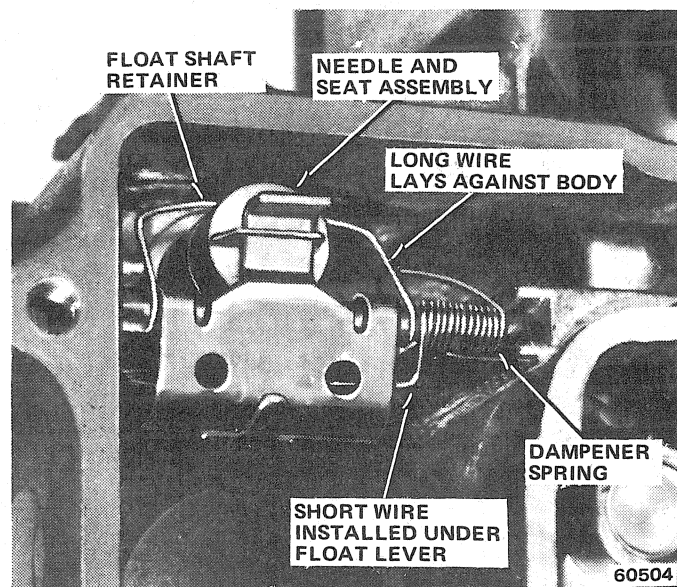

Fig. 1J-130 Damper Spring Installation
- (12) Install main jets.
- (13) Install fuel inlet seat and replacement gasket. Install fuel inlet needle assembly in fuel inlet seat. Fuel inlet needles and seats are matched assemblies. Ensure correct needle and seat are assembled together.
- (14) Slide float shaft into float lever. Position float shaft retainer on float shaft.
- (15) Install float damper spring with short wire under float lever (fig. 1J-130).